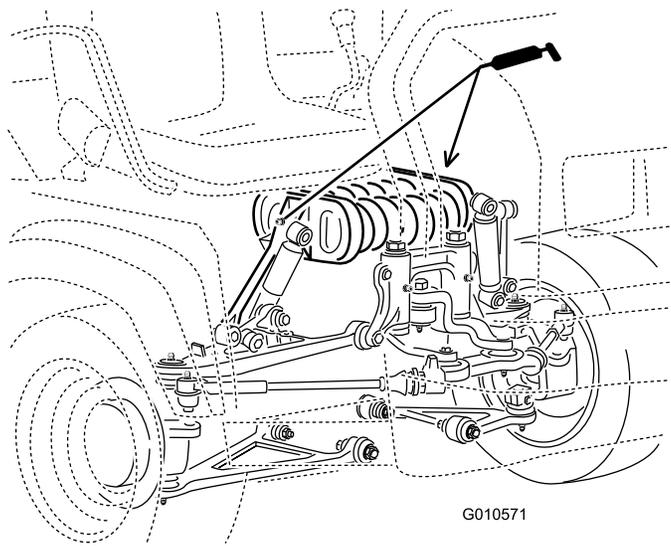

Figure 35
- Spring tower (2) (Figure 35)